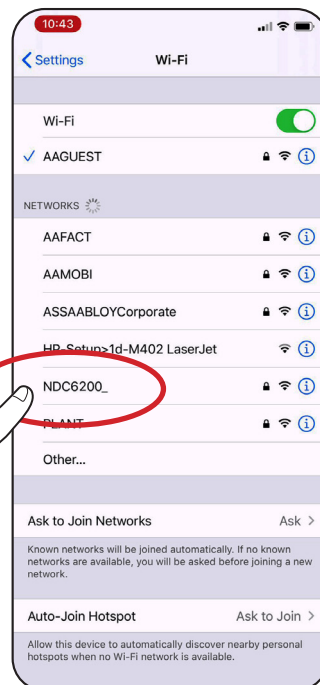

Figure 12
2. From your smart device open Wi-Fi Networks to search for operator SSID. Once your specific ID beginning with NDC6200_ is found, connect to network. (Figure 12)